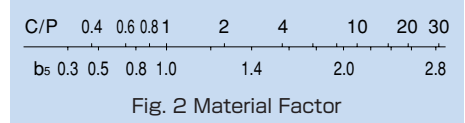

Fig. 2 Material Factor
- b₅ : Material factor (see Fig. 2)